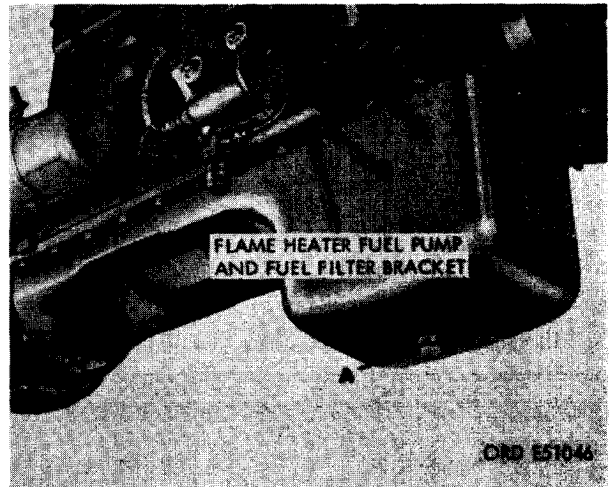

FIGURE 198. DRAINING ENGINE OIL AND DISCONNECTING OR CONNECTING FLAME HEATER FUEL PUMP AND FUEL FILTER BRACKET.
- (1) Figure 198. (A) Remove oil drain plugs and drain engine oil into a suitable container. Replace plugs after draining. (B) Remove three 3/8 x 1- 1/4 cap screws and 3/8- inch lock washer and remove fuel filter bracket. (C) Remove oil level gage rod from oil gage rod support.
**b. Installation.** Refer to figures 198 through 200 and reverse the sequence of illustrations and instructions to install new oil pan gasket, oil pan, and flame heater bracket.
- (6) Remove oil pan and flame heater fuel pump and fuel filter bracket following instructions in figures 198 through 200.
- (5) Refer to figures 198 and 199 and reverse the sequence of instructions to install oil pan gasket and oil pan.
- (6) Refer to paragraph 96e (1) for instructions on installation of crankshaft damper and pulley assembly.
- (6) Remove oil pan and flame heater fuel pump and fuel filter bracket following instructions for figures 198 through 200.